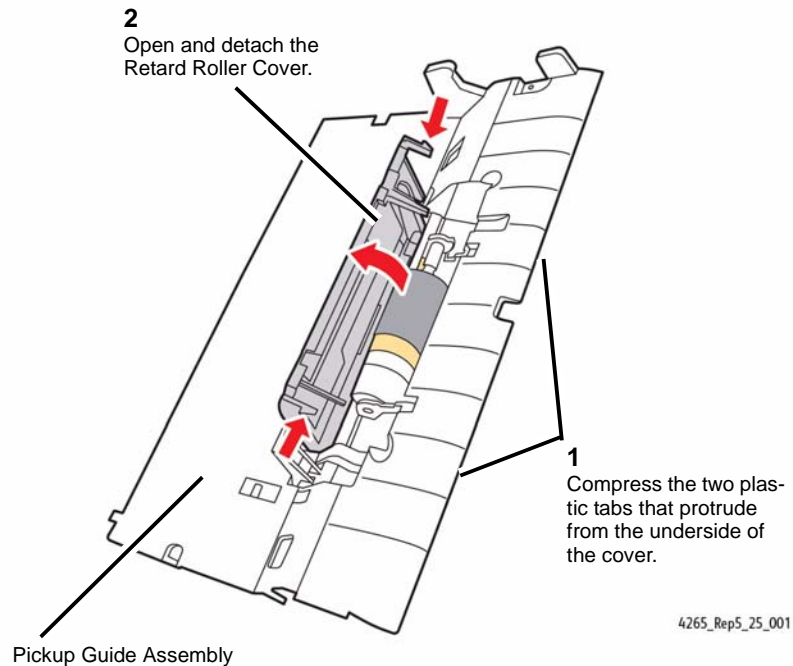

Figure 1 Detaching the Retard Roller Cover
3. Detach the Retard Roller Cover from the Pickup Guide Assembly (Figure 1).